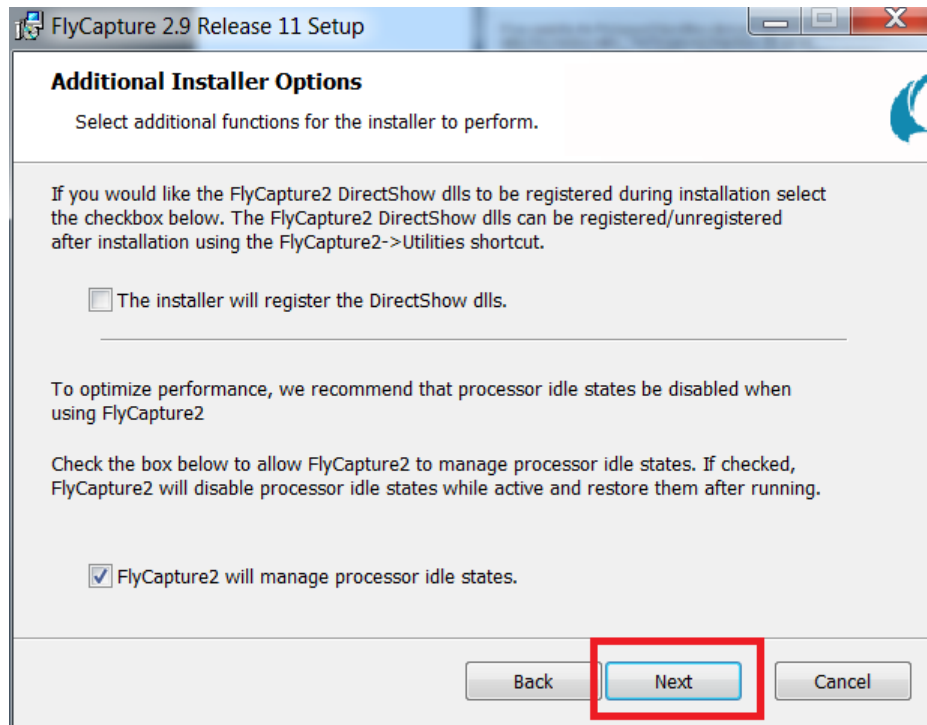

Figure 2-11. Idle State Management Selection for FlyCapture2 SDK
11. Allow FlyCapture2 to manage processor idle states while the SDK is in use. Accept the default selection and click the "Next" button, shown in Figure 2-11.